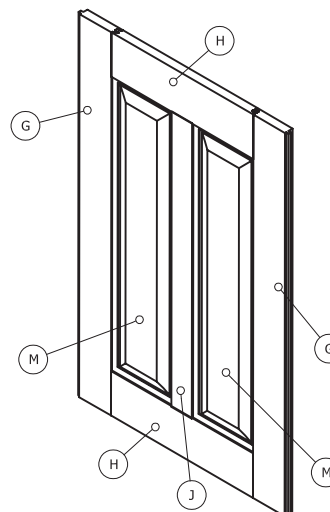

Figure 2
- **(34:51 to 35:26)** About the side Panels. Use plain 3/4" plywood panels...or raised panels like our example. If you decide to use plywood, it's best to use cabinet grade material with no voids. See figure 2.